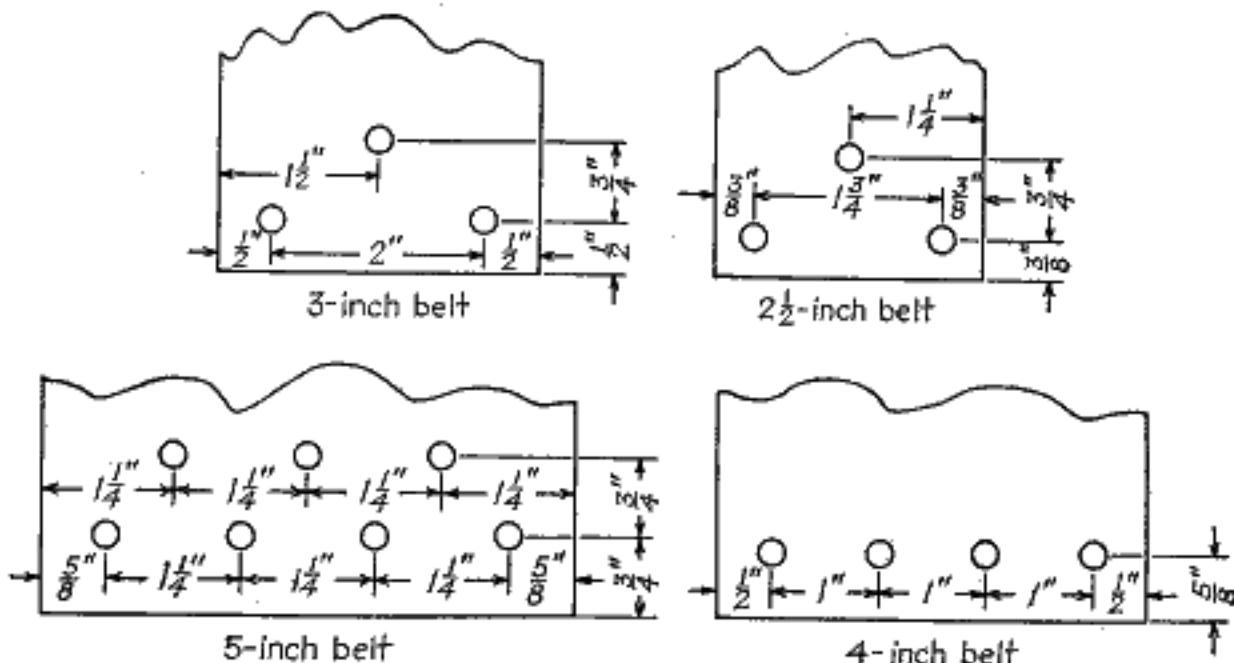

FIG. 312.—Suggested spacing of holes for common belt laces.
**370. Punching Holes for Laces.**—In preparing a belt for lacing, the ends are first cut off square, and the locations of the holes carefully marked out. Figure 312 gives suggested spacing of holes for a few common widths of belts. Holes should be no larger than necessary on account of the weakening effect on the belt. Holes  $\frac{3}{16}$  in. in diameter are large enough for  $\frac{1}{4}$ -in. laces. Oval holes with the long axis parallel with the edges of the belt are better than round holes.